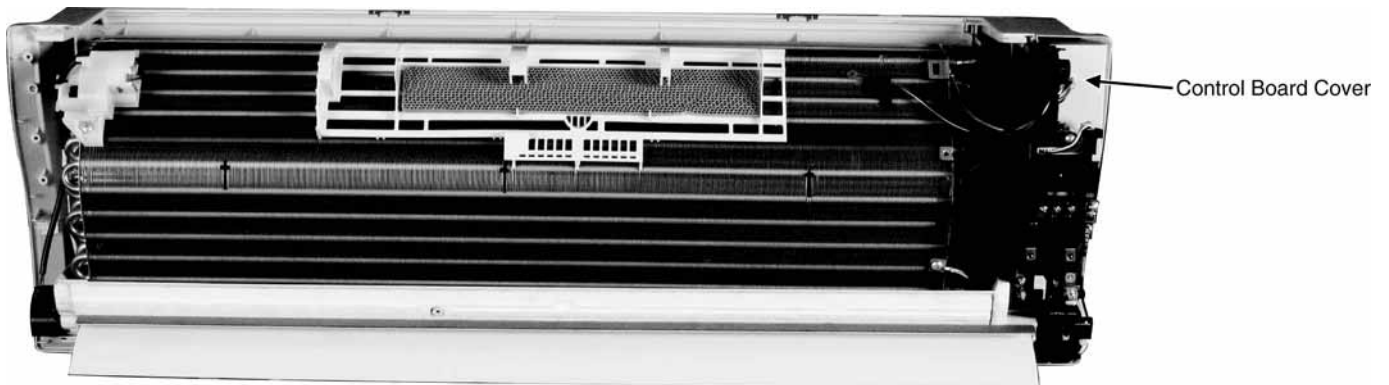

Fig. 4
1. Remove the Control board cover. (Fig.4)